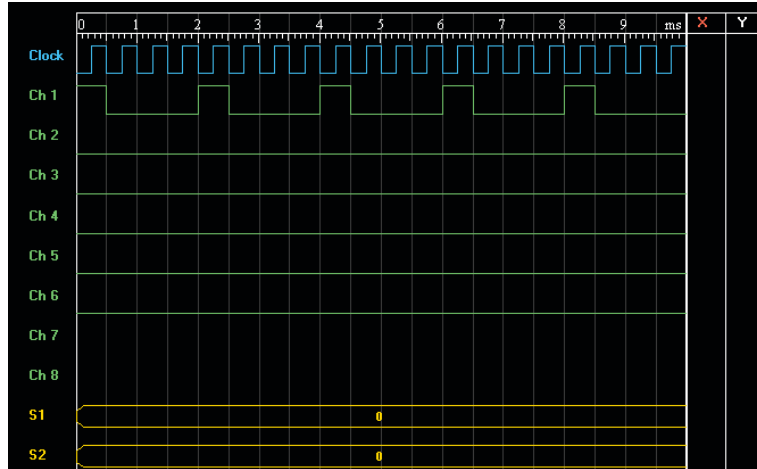

Figure 25. Logic Analyzer showing the quadbit 0000 in Ch 3 to Ch 6 and in S2.
26. Set the Generation Mode to User-Entry. Set the Binary Sequence to the four-bit sequence (quadbit) 0000 and the Bit Rate to 2000 bit/s. Record data using the Logic Analyzer. Configure Symbol 2 of the Logic Analyzer to display the hexadecimal value of the quadbit, as shown in Figure 25.